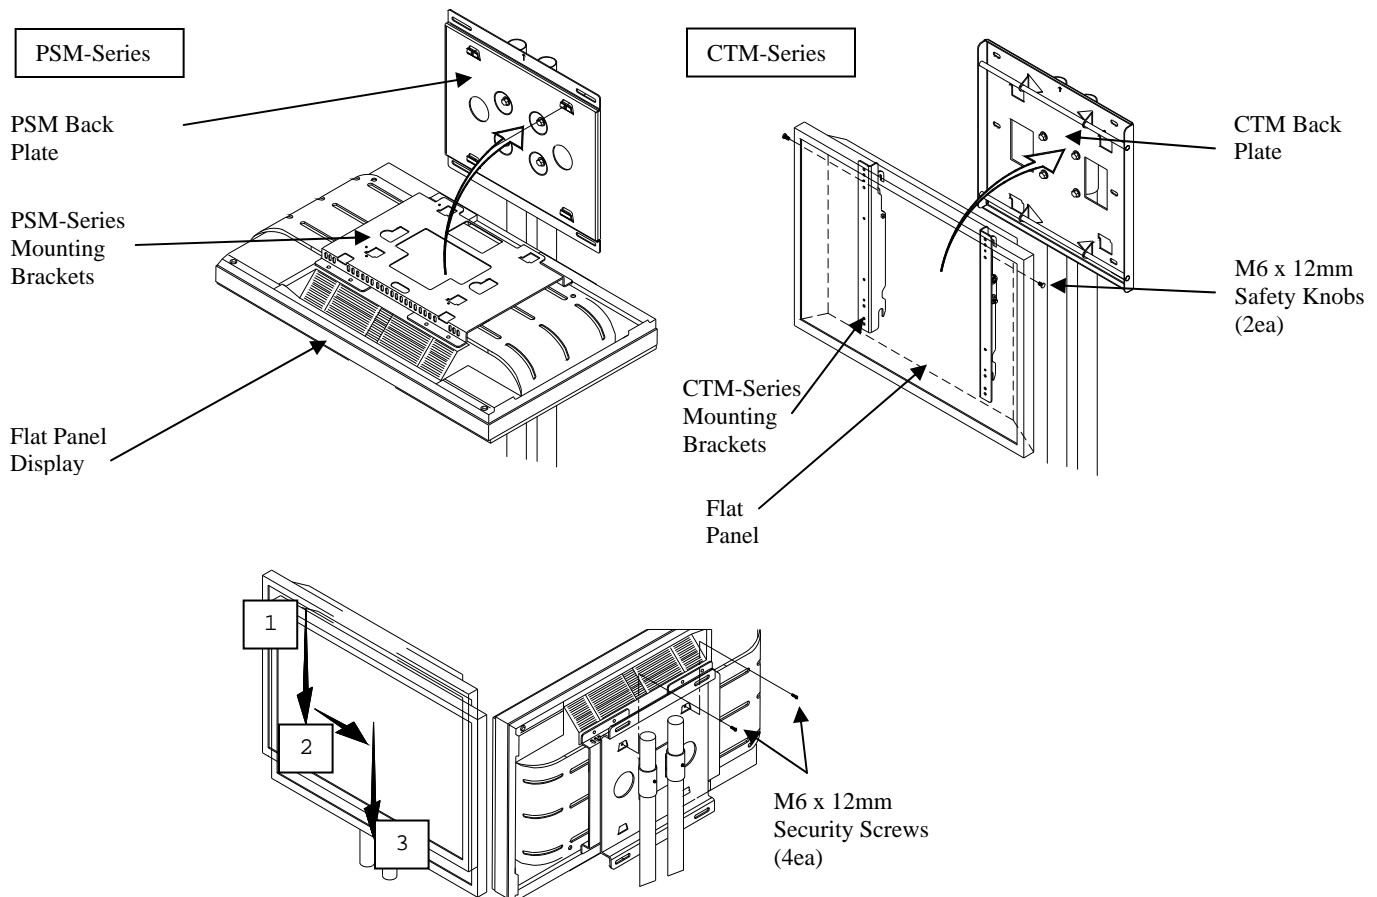

Figure 3
PSM-Series: Raise the flat panel display with the mounting bracket secured. Insert the four (4) tab openings from the PSM mount to the four (4) receiving tabs found on the PDB-UWFB back plate. Push to slide the flat panel display down, right and down again to lock the mounts together (Figure 3). Make sure all tab openings are interlocked with the receiving tabs before letting go of the flat panel. Secure the brackets with the two (2) M6 x 12 (mm) Phillip (supplied) screws for additional security.
CAUTION: The safety knobs **MUST** be used. Failure to do so may result in damage to the flat panel display or personal injury (Figure 3).